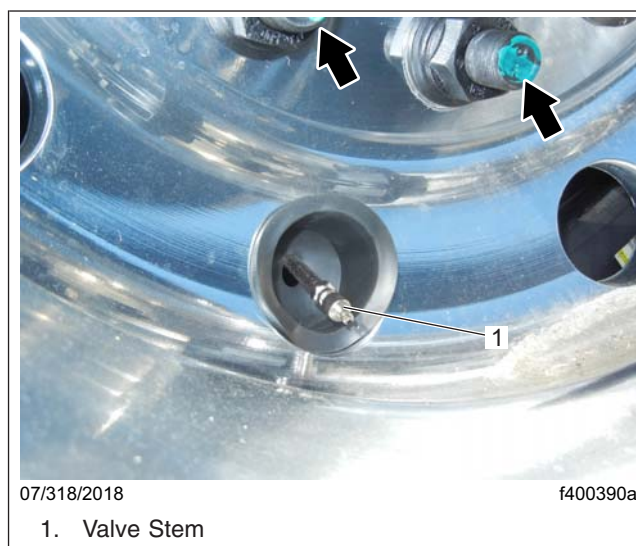

Fig. 8, Marking Wheel Studs
5. Mark the two studs closest to the valve stem as shown in Fig. 8, for proper wheel assembly location when reinstalling the wheel assembly on the hub.